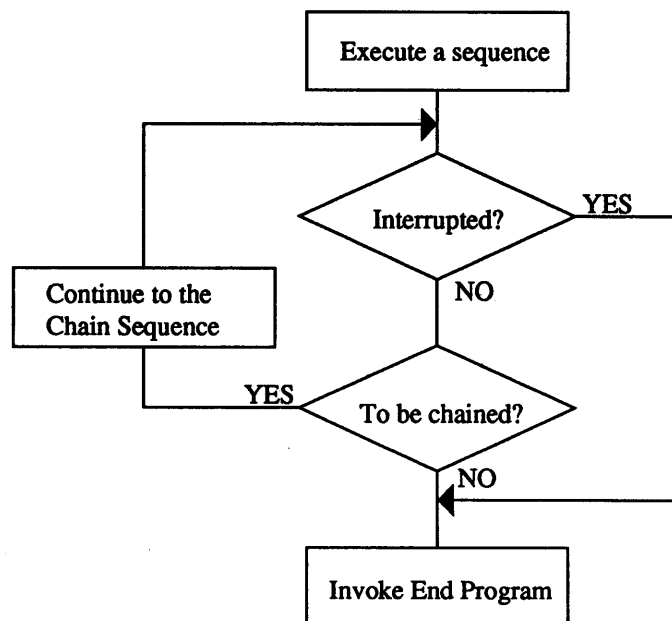

Figure 16 Relationship between Chain Sequence and End Program
- 5) The E specifies a Program number to be invoked when the sequence has been interrupted by the **STOP** key. This Program is called *End Program* and it specifies how the supply output should behave (for instance, turning output off). (However, if the End Program contains two or more Steps, only the leading Step will be executed.) Figure 16 shows the relationship between End Program and Chain.